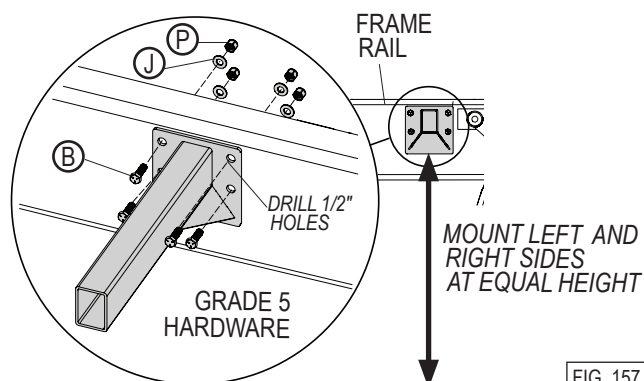

FIG. 157
- Place each top mount **offset base (1)** against the frame, centered on the pivot point marked in the previous steps.
- Ensure both offset bases (1) are mounted at the same height. Use shims if necessary to level the mounting locations, see Figure 157.
- Secure each fixed offset (1) to the frame rail with Grade 5 hardware. For each plate, install four **bolts (B)**, **washers (J)** and **lock nuts (P)**.